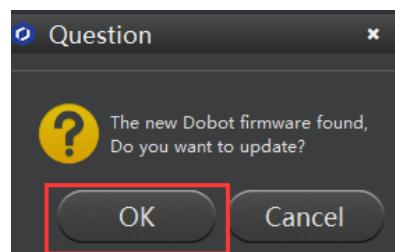

Figure 5.76 Confirm the firmware upgrade
2. Click **OK**, as shown in Figure 5.76.